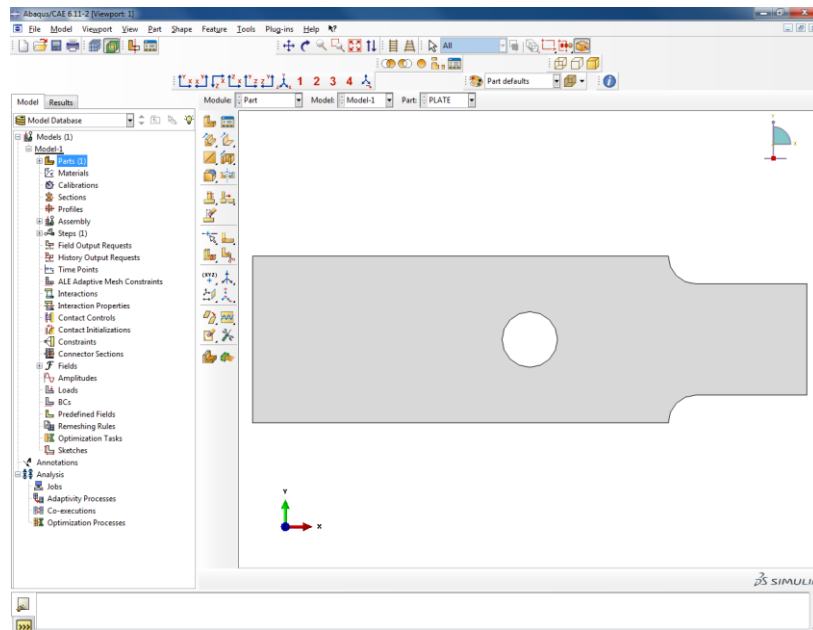

Figure 7. Plate with Hole (Part Module)
- The geometry of the plate is now complete. Click **Done** at the bottom of the viewport to exit the sketching viewport. Upon exiting the sketching viewport, the part should turn a solid grey color (Figure 7).